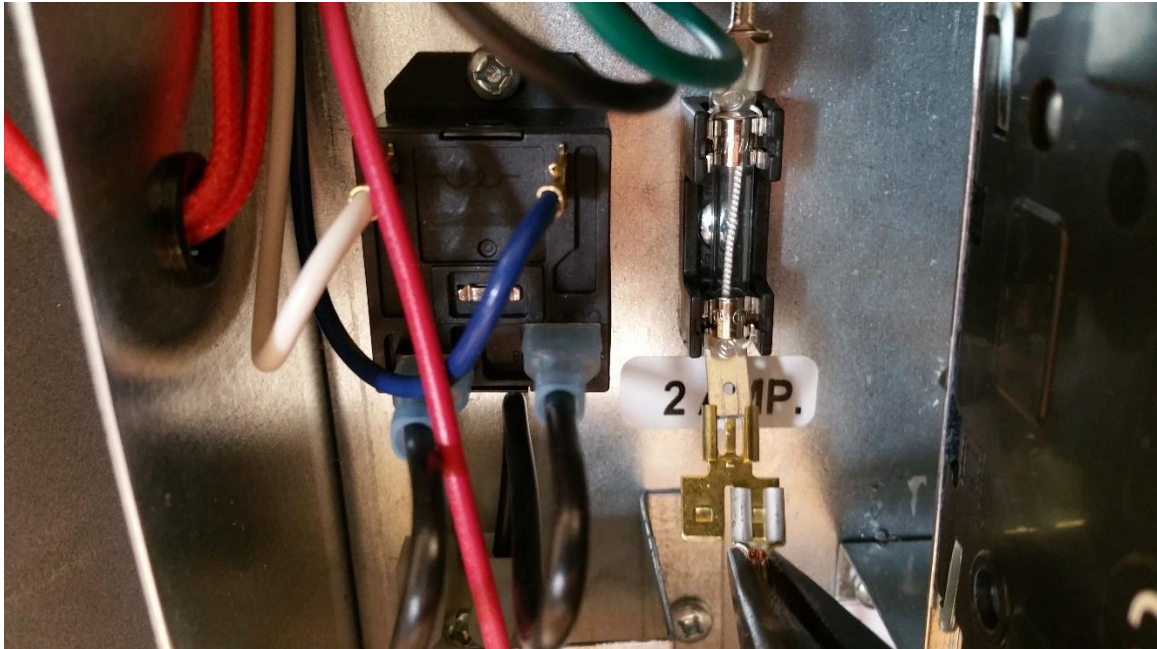

Figure 2
5. Connect the twin spade connector to the control fuse (Fig. 2) on the side going to the